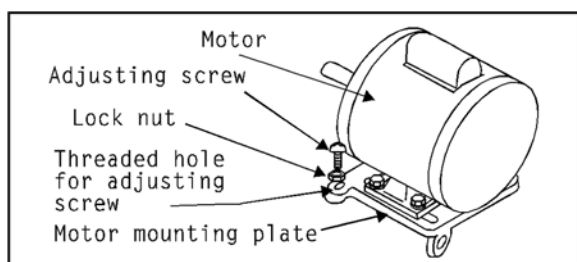

Figure 13: Motor plate adjustment screw
4. To change the belt position (and, therefore, the blade speed) first loosen the motor plate adjustment lock nut. Refer to *Figure 13* for the position of the motor plate adjustment screw and locknut.